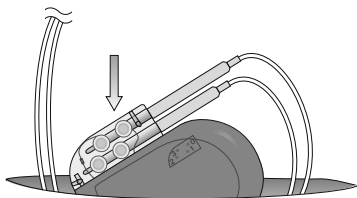
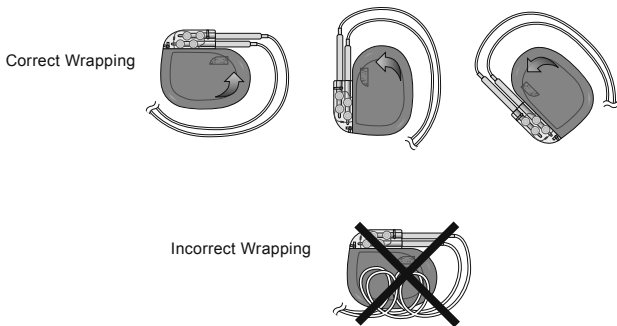

Figure 7. Place neurostimulator into subcutaneous pocket.
Figure 8. *Wrap excess length around perimeter of neurostimulator.*
3. Place the neurostimulator into the subcutaneous pocket (Figure 7) with the etched Medtronic logo side facing away from muscle tissue. Position the neurostimulator so that no sharp bends occur along the lead (Figure 8).
Caution: Do not loop or coil the wire on top of the neurostimulator's Medtronic logo side. Loosely wrap any excess wire around the perimeter of the neurostimulator (Figure 8). This avoids any increase in the subcutaneous pocket depth, minimizes potential damage during replacement surgery, and minimizes potential kinking of the wire.